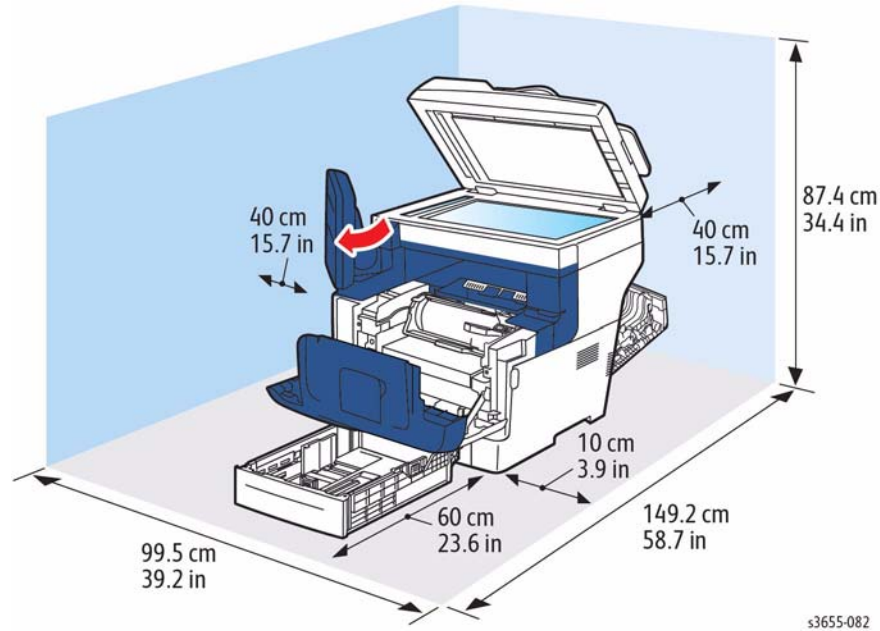

Figure 1 Minimum clearances
Figure 1 shows the required space needed to properly operate and service the machine.
1. In order to function properly, the printer must be placed on a flat surface with the minimum clearances shown in Figure 1.